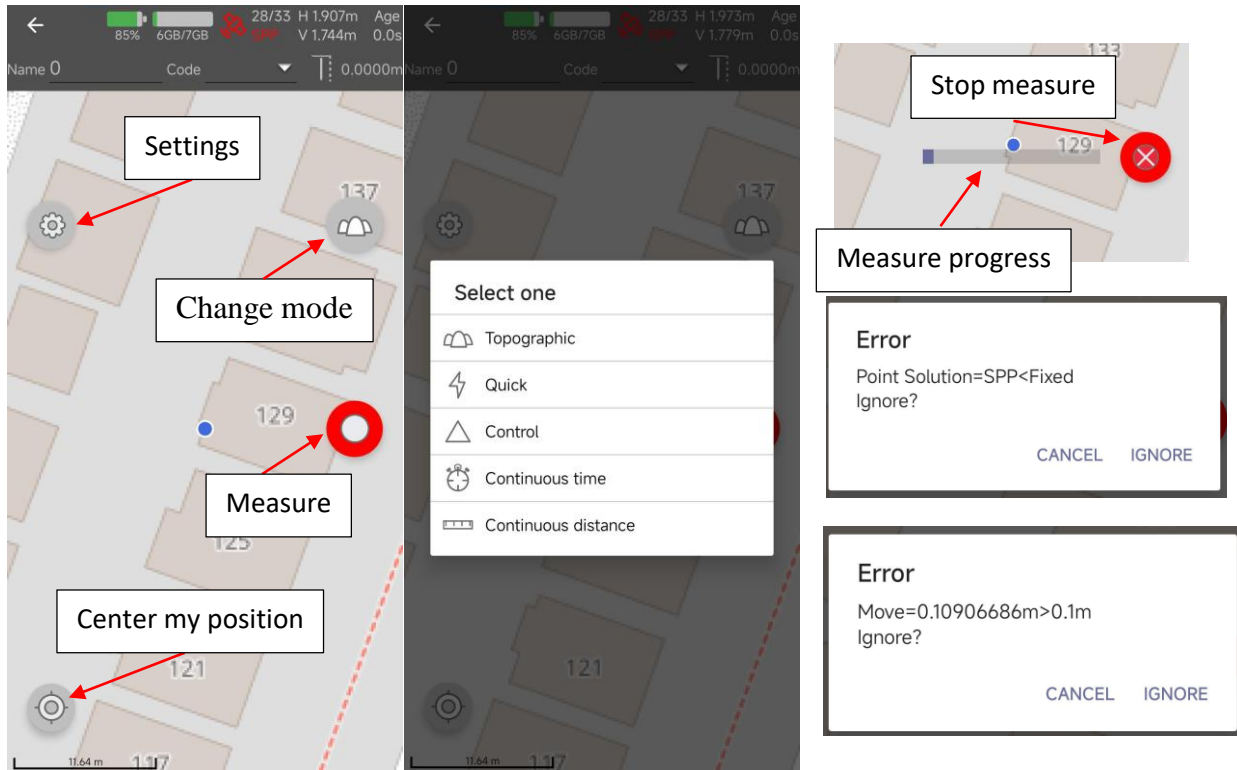

Figure 4-10 Survey base station coordinate (left), change survey mode(middle) and prompt in measure process (right)
- (4) Switch **Survey Mode** to **Control**. As shown in Figure 4-10, this enables a static survey to determine a fixed point.
- (5) Choose a desired number of epochs for point survey in **Settings** by **Smooth count** droplist. Default is a 100-epoch static survey to determine the base station coordinate. The longer time for the static survey, the better results will be acquired. Change the point name if you want.
- (6) Tap **Measure** to begin collecting static position data.